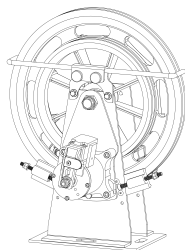

Fig 2
- 1 pcs Overspeed governor Fig. 2